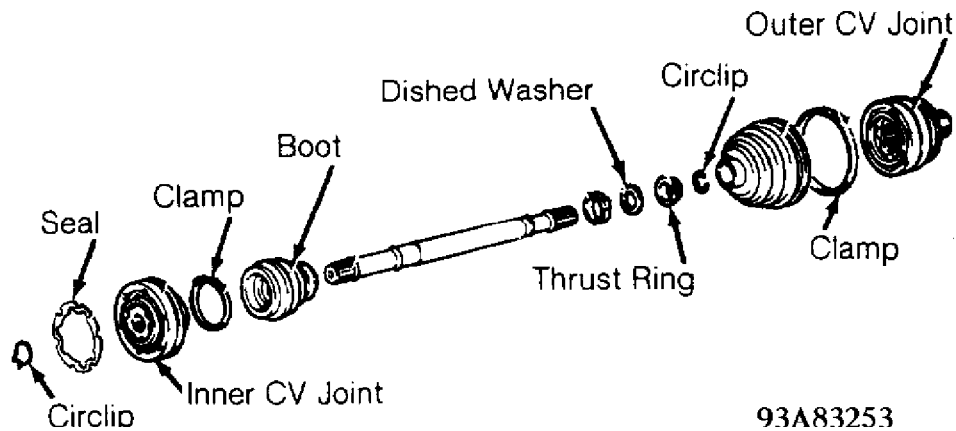

Fig. 1: View Of Axle Shaft (M/T Transaxle Shown; Others Similar)
2) Remove 2 bolts attaching spindle assembly to strut assembly. Remove lower ball joint bolt or nut if necessary. Remove spindle assembly. Loosen inner CV joint from transaxle flange. On models with V6 engine, use Axle Press (3283) to press axle from wheel housing. Clean old locking compound from splines. Remove axle shaft assembly. See Fig. 1.